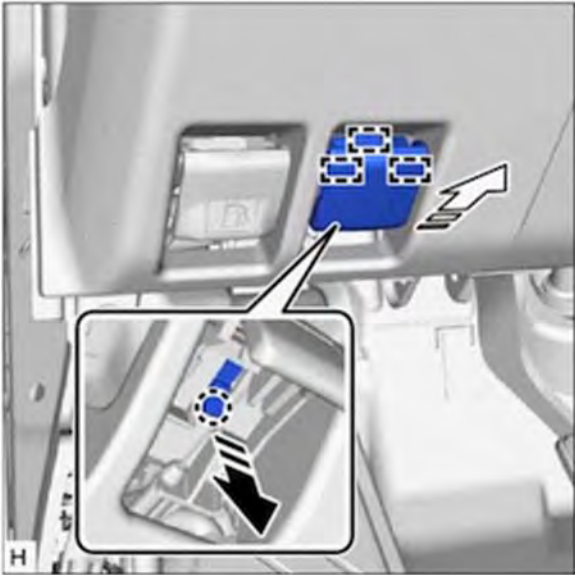

Figure 24
- (a) Detach the claw in the direction (1) indicated by the arrow shown in the illustration.
- (b) Detach the guide in the direction (2) indicated by the arrow shown in the illustration and remove the hood lock control lever sub-assembly. Figure 24.